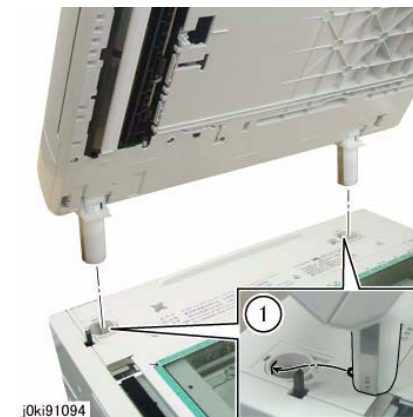

Figure 3 Install the DADF
2. Install the DADF. (Figure 3)